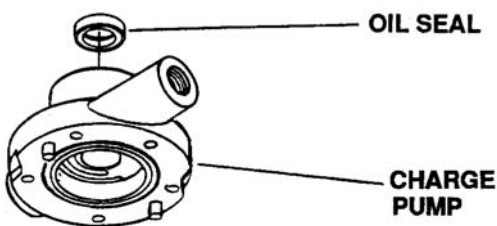

Figure 6-103. Removing Oil Seal
- d. Press or drive the oil seal from the charge pump. See Figure 6-103.